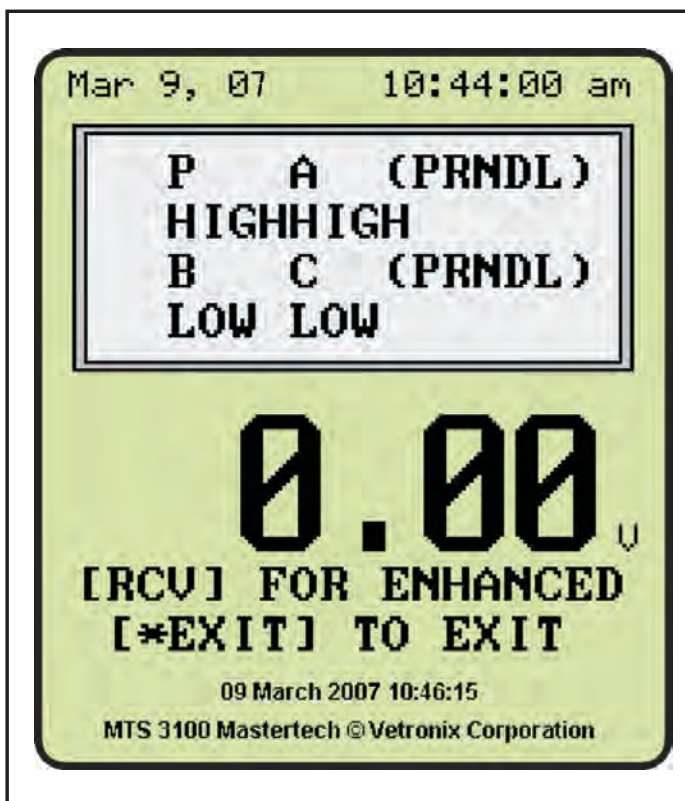

Figure 86
- If the range circuits have system voltage, watch these parameters on the scan tool, as shown in Figure 86, as you ground "A", "B", "C" and "P" terminals at the switch connector, one at a time, and watch the scan tool as you do this, each range parameter should change from "Hi" to "Lo", or 12 to 0. If no change takes place the PRNDL decoder inside the PCM is faulty and the PCM will require replacement.